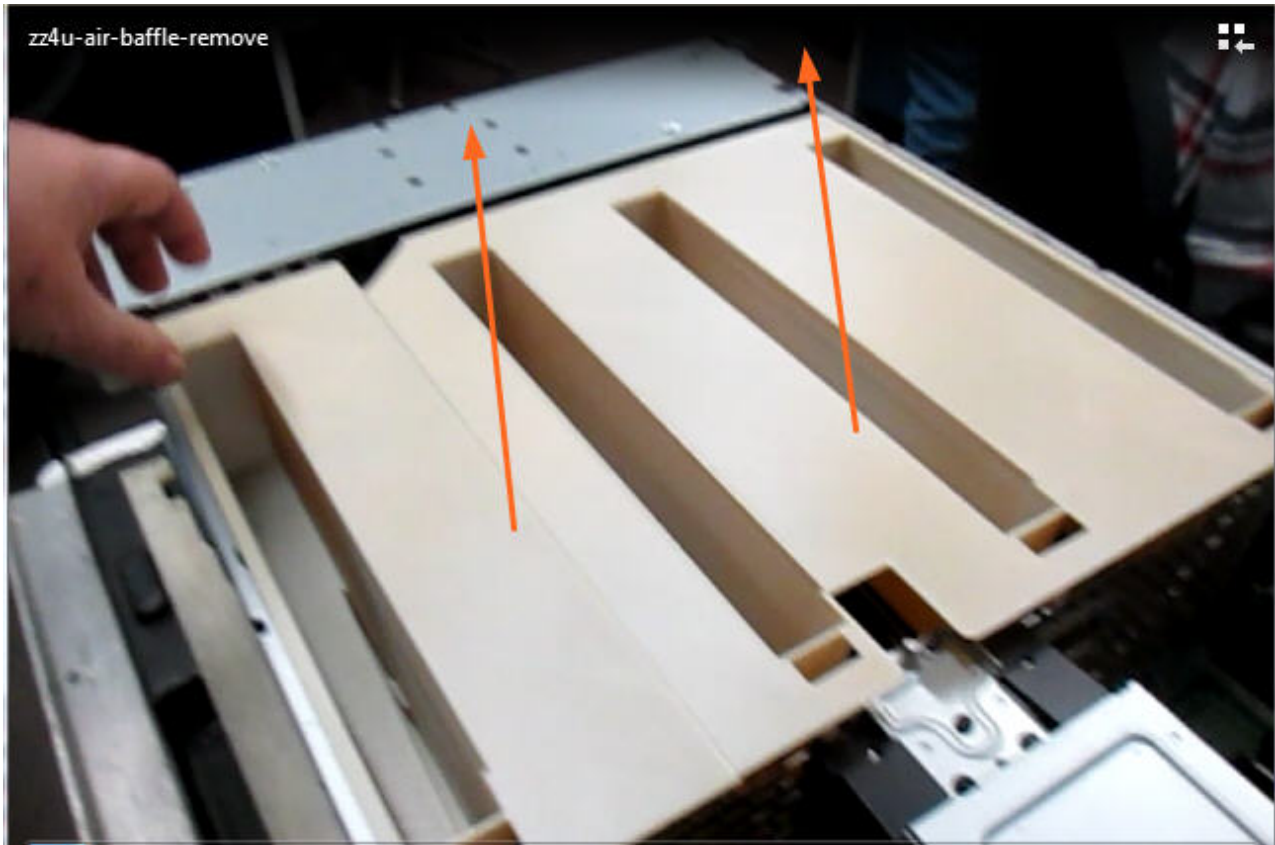

Figure 26. Removing the air baffle
2. Lift the air baffle (A) up to remove it as shown in Figure 26 on page 35.